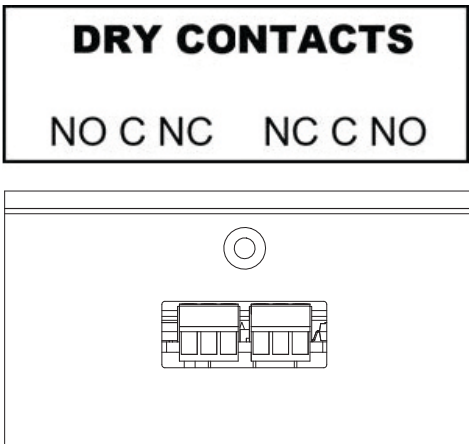

Figure 6: Dry Contact Connection Configuration
2. If desired, dry contacts may be installed. Refer to Figure 6 and following "Operation" section for more information.